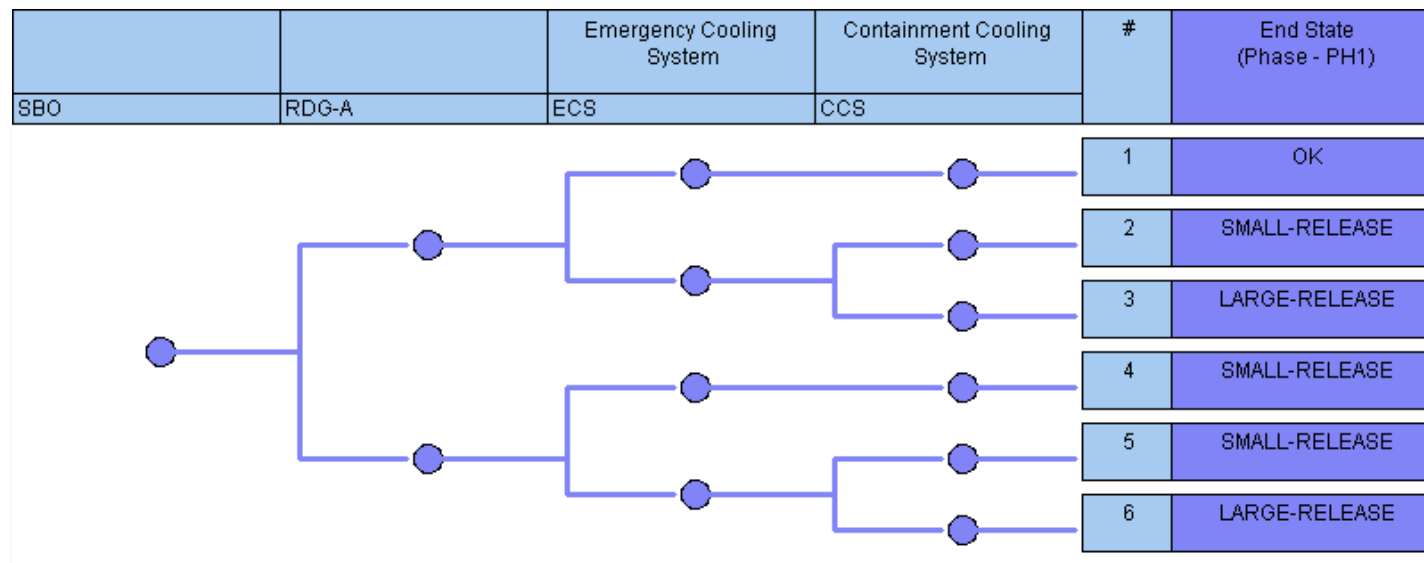

Figure 2. The SBO event tree required for the end state workshop.
1. Open the DEMO-ADV project. Construct the new event tree SBO as shown in Figure 2.